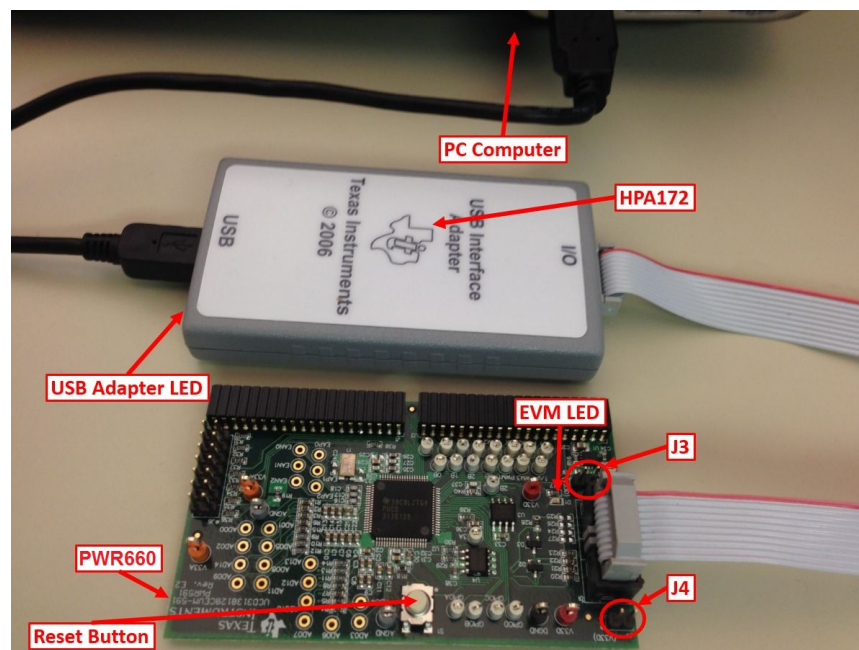

Figure 4. UCD3138A64EVM-660 Test Connections
Figure 4 shows the connection between UCD3138A64EVM-660 and the PC computer through USB-to-GPIO Interface Adapter.
1. Set up the EVM connection based on Figure 4. The LED of the USB adapter lights.